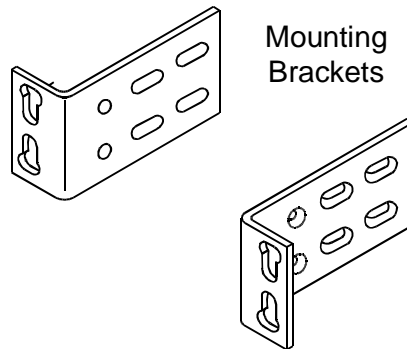

Figure 5-1. Mounting Brackets
1. Open bag containing universal rack mounting kit and select the following items (see Figure 5-1):